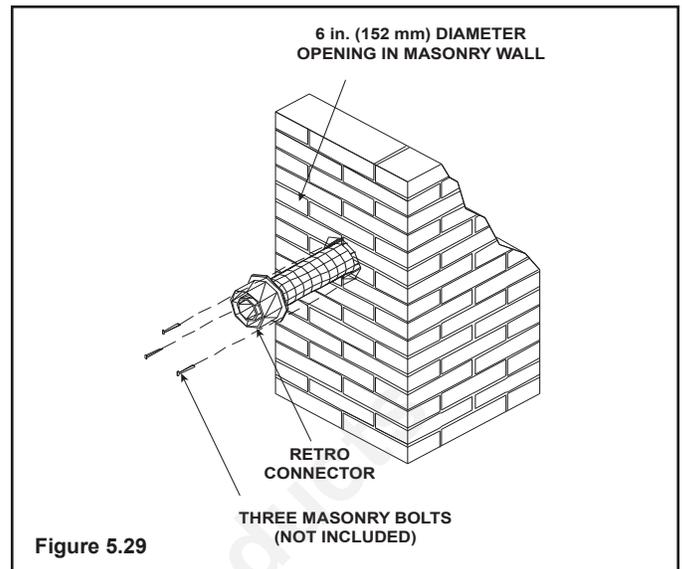

Figure 5.29
- Attach the flex to the retro connector. Use three sheet metal screws to attach the flex liner to the connector (Figure 5.29). Mount the retro connector to the masonry wall using masonry bolts. Redrill larger holes on connector as needed. Be careful to ensure that the connector is centered in the opening and the mounting holes line up with the masonry wall.